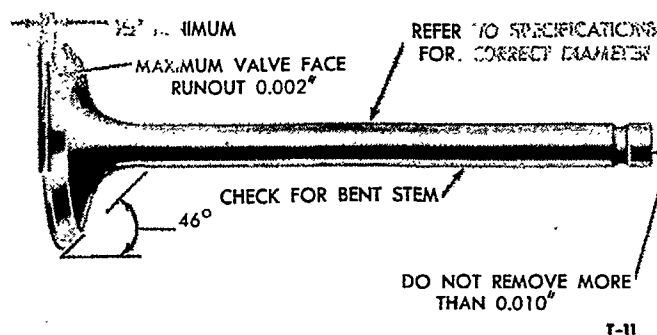
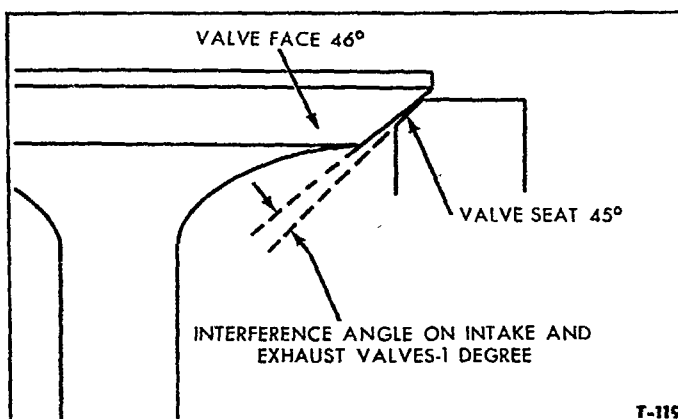

Figure 18—Critical Valve Tolerances
Figure 22—Interference Angle on Valve Face
2. Discard burned, cracked or warped valves that show any evidence of heat checks on the face of the valve, or that have a head margin of less than $\frac{1}{32}$ " after being refaced, Figure 18. Reface all valves.
3. The valve refacing operation should be closely coordinated with the valve seat refacing operation so the finished angle of the valve is 1° more than the valve seat to provide an interference angle for better seating, Figure 22. Be sure the refacer grinding wheel is properly dressed and the valve is set at 46° to the wheel, Figure 22. Remove only enough stock to clean up pits and grooves. Check the edge of the valve head; if less than 1/32 margin as shown in Figure 18, replace the valve. Grind off all grooves